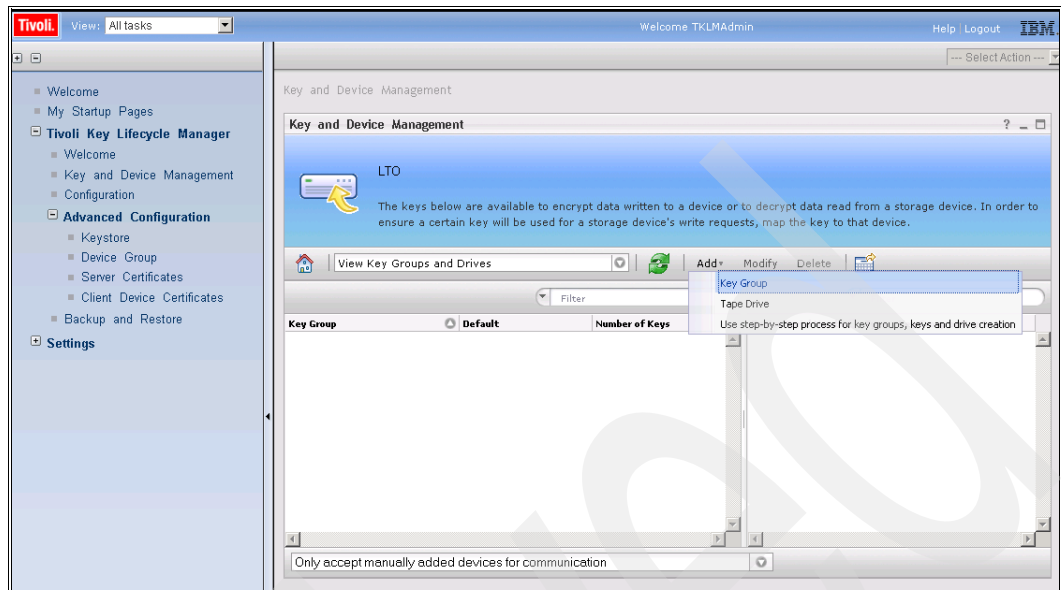

Figure 9-41 Key and device management with key group selected
3. Click **Add**, then **Key Group** as shown in Figure 9-41.